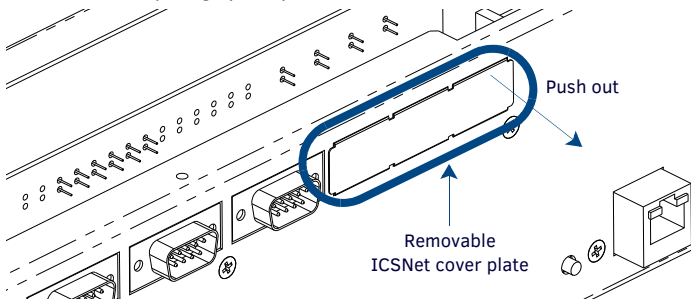

FIG. 7 ICSNET COVER PLATE LOCATION
4. Push out the ICSNet cover plate from the inside of the unit. This action dislodges the cover plate and reveals the three ICSNet connector openings (FIG. 7).